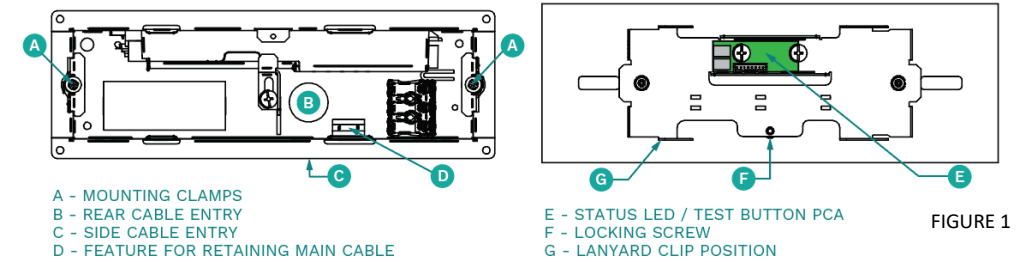

FIGURE 1
- Connect Loom into Status LED/Test Button PCA and attach lanyard to Blade/Cover Plate Assembly (see Figure 1)